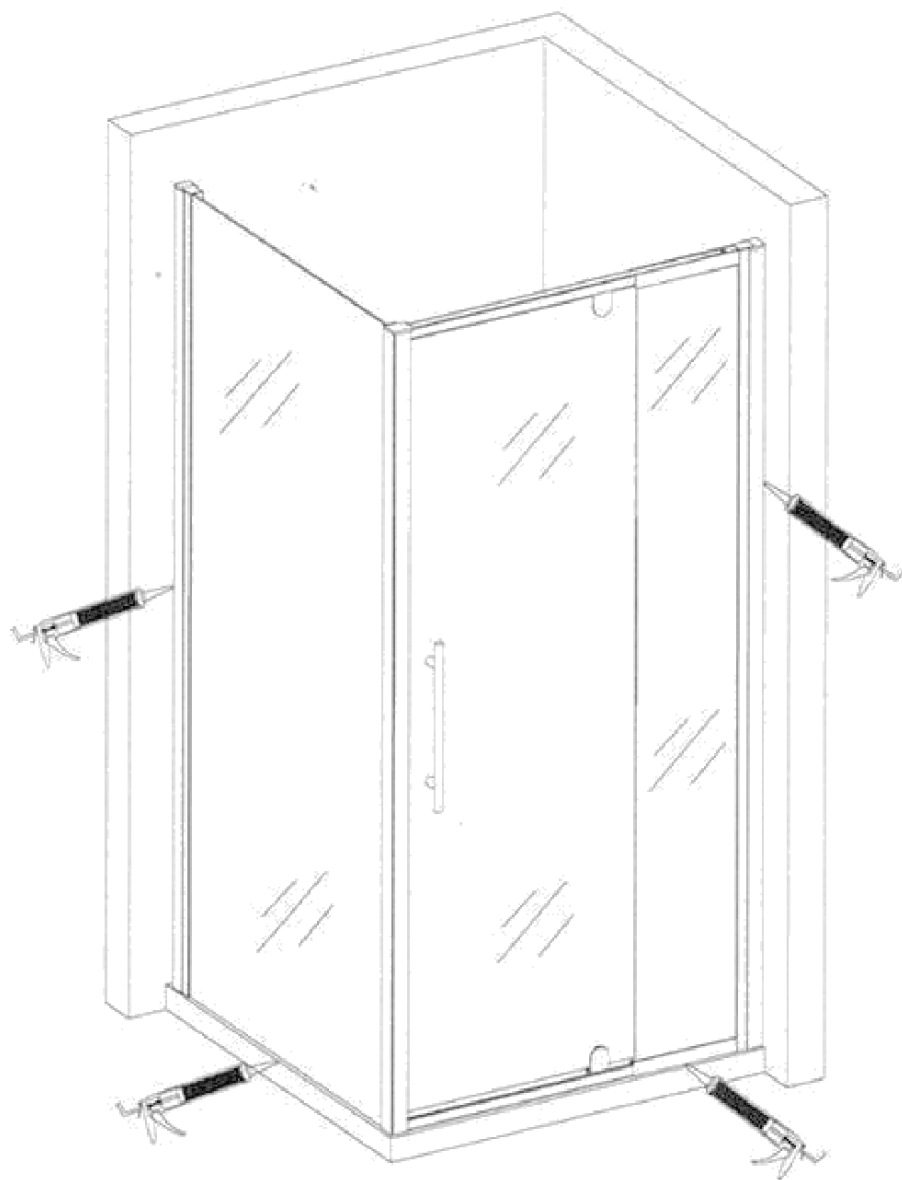

Fig 12
7. Seal with silicone caulk between wall, glass and tray or ground. (Fig 12)